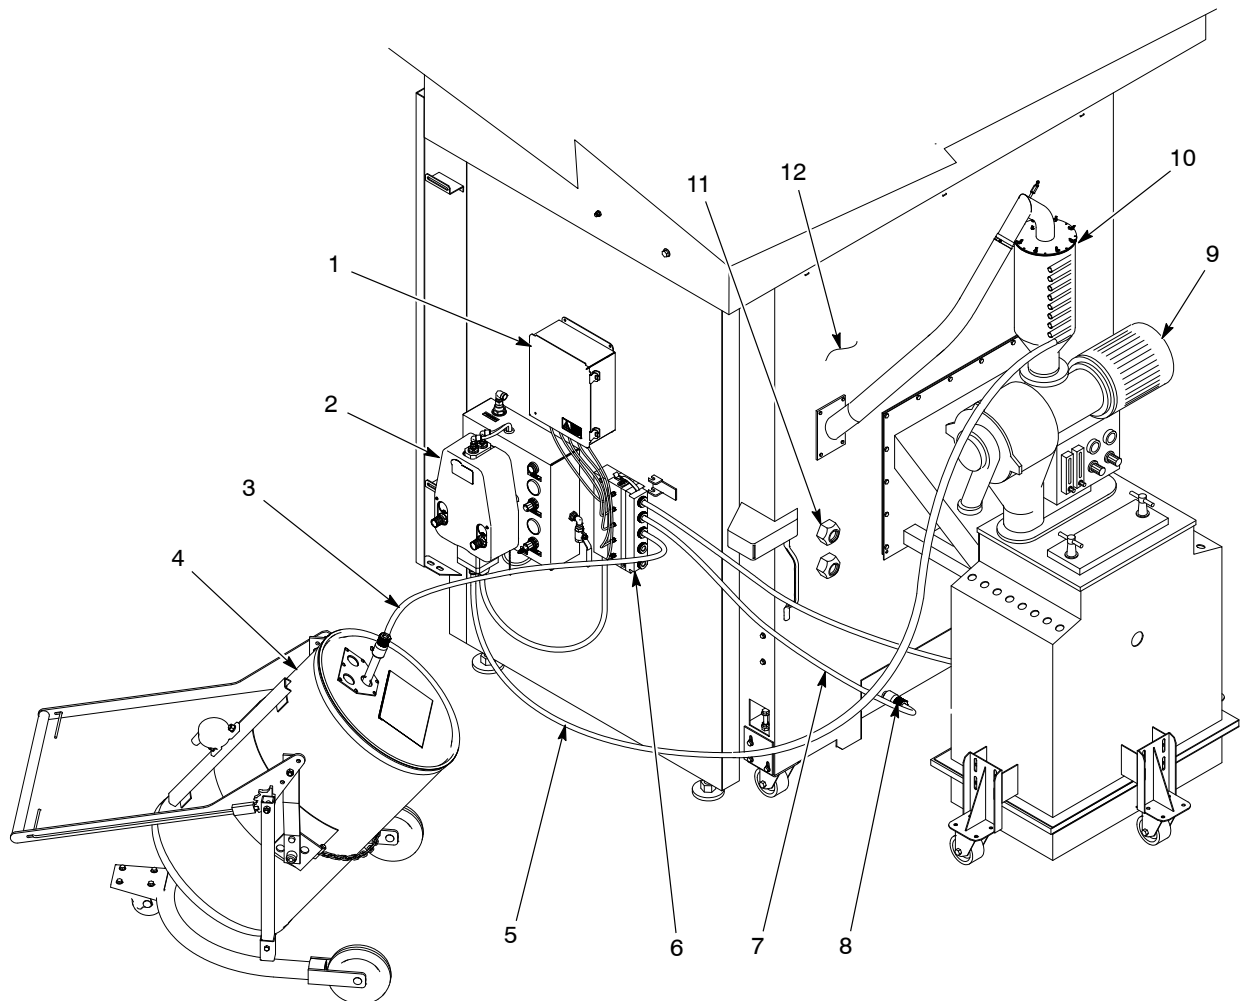

Figure 1 Typical Color Module HDLV Transfer System with Fan-Mounted Manifold
Figure 1 shows a transfer system with the manifold (6) mounted on the fan section support. This configuration requires one manifold assembly per system and one quick-disconnect plate and set of suction hoses for each color module. When changing colors, the operator disconnects the suction hose (3) from the bulk powder supply (4) and connects it to the purge adapter (11), then purges the pump and powder hoses. When changing the color module, the operator unclamps and disconnects the quick disconnect plate. The virgin and reclaim suction hoses and quick disconnect plate stay with the color module.
Mount the the system components as shown in Figures 1 and 2, with the manifold and pump station positioned in order to keep the suction tubing as short as possible (less than 2 meters long).